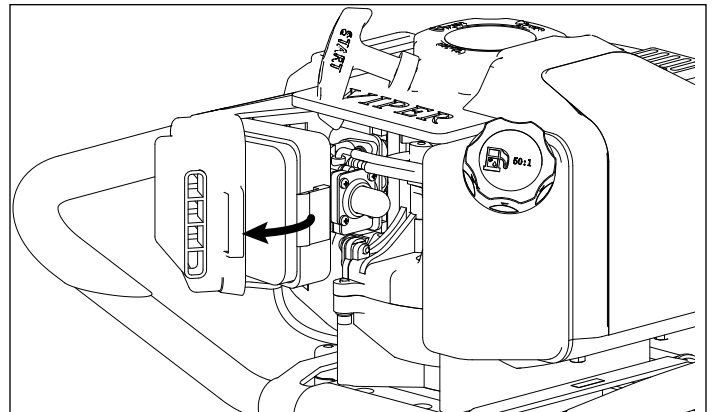

Figure 4
3. Once the latch tabs are released, remove the air filter cover by rotating the cover away from the engine. **SEE FIGURE 4.**